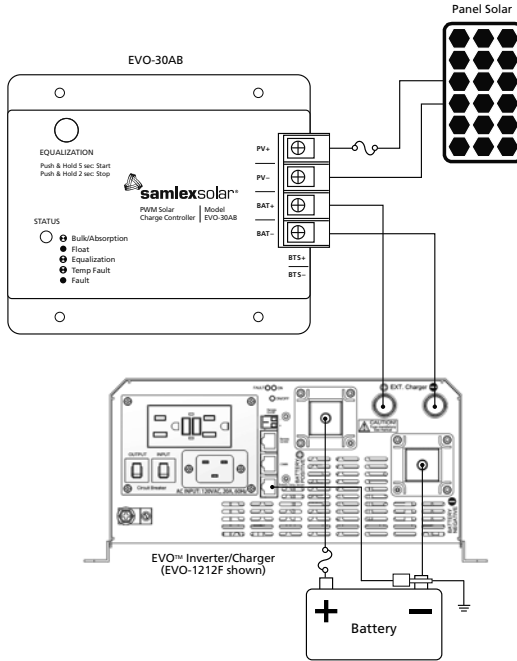

Fig 6.5 EVO-30AB with EVO™ Inverter/Charger
3. Install the EVO-30AB as described in Section 6.1 to 6.3 of this manual, but making the battery connection to the "External DC Charger connection on the EVO™ Inverter/Charger. See Fig 6.5 below.